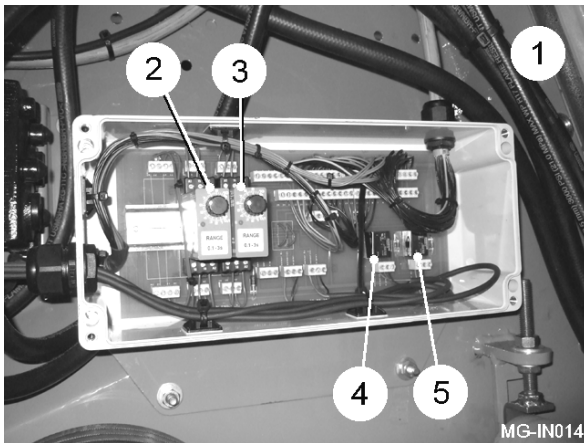

Fig 18
If the auto-depth control still does not function correctly then check the multi pin plug and socket at the front of the machine to make sure no contacts are bent. If after checking the setting and operation of the sensors, the share operation is still incorrect, remove the cover from the junction box (item 1, fig 18) mounted behind the LH rear guard door. Too much oil flow from the tractor can affect the movement of the depth ram resulting in uneven depth. The 'raise' timer (item 2, fig 18) and 'lower' timer (item 3, fig 18) are adjustable and have a range of 0.1 seconds to 3 seconds on a scale 0 to 10. Ensure the timers are set to the same value. Reducing the timer delay makes the share depth control more sensitive to ground level variations, whilst increasing the value reduces the sensitivity.
If the axle auto-centring circuit is not functioning check that the proximity sensors are set correctly (see proximity sensor adjustment). Also check the operation of the proximity sensors (see proximity sensor operation). If after checking the above points the auto-centring circuit is still not working, remove the cover from the junction box (item 1, fig 18) mounted behind the LH rear guard door. The relay (item 4, fig 18) is for steering right and the relay (item 5, fig 18) is for steering left. Check the output of the relays by repeating the proximity sensor operation test while at the same time observing the relays. By triggering the proximity sensors the relays should be heard latching in place. If a relay is not latching then it will need to be replaced.